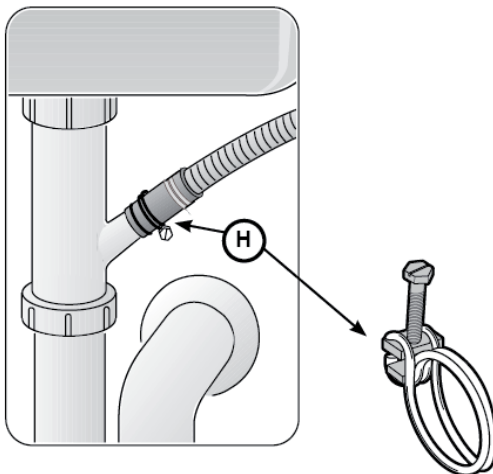

Figure 15
4. Use the clamp provided to attach the drain hose to the house plumbing as shown in **Figure 15**.